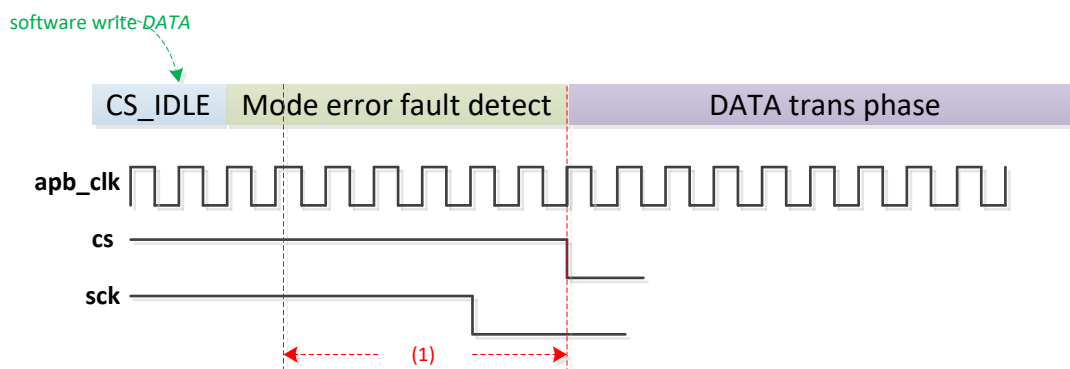

Figure 19-9 Limitation of mode fault detect
This mode fault detect function may can't detect the mode fault by master 1 with some special cases. If master 2 drive CS low during (1) period in Figure 19-9, master 1 will not set *MODEF*. Only master 2 drive CS low before (1) period that master 1 can set *MODEF*.